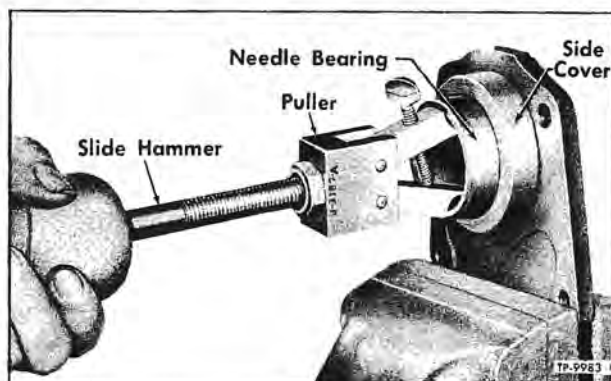

Figure 12—Removing Side Cover Needle Bearing
1. Pull needle bearing from side cover, using puller tool (J-3187-A) with slide hammer (J-2619) (fig. 12).